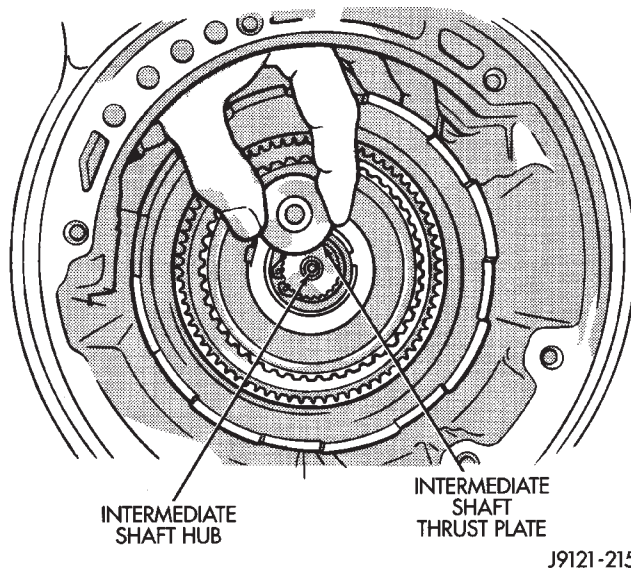

Fig. 97 Removing Intermediate Shaft Thrust Plate
(25) Remove output shaft thrust plate from intermediate shaft hub (Fig. 97).